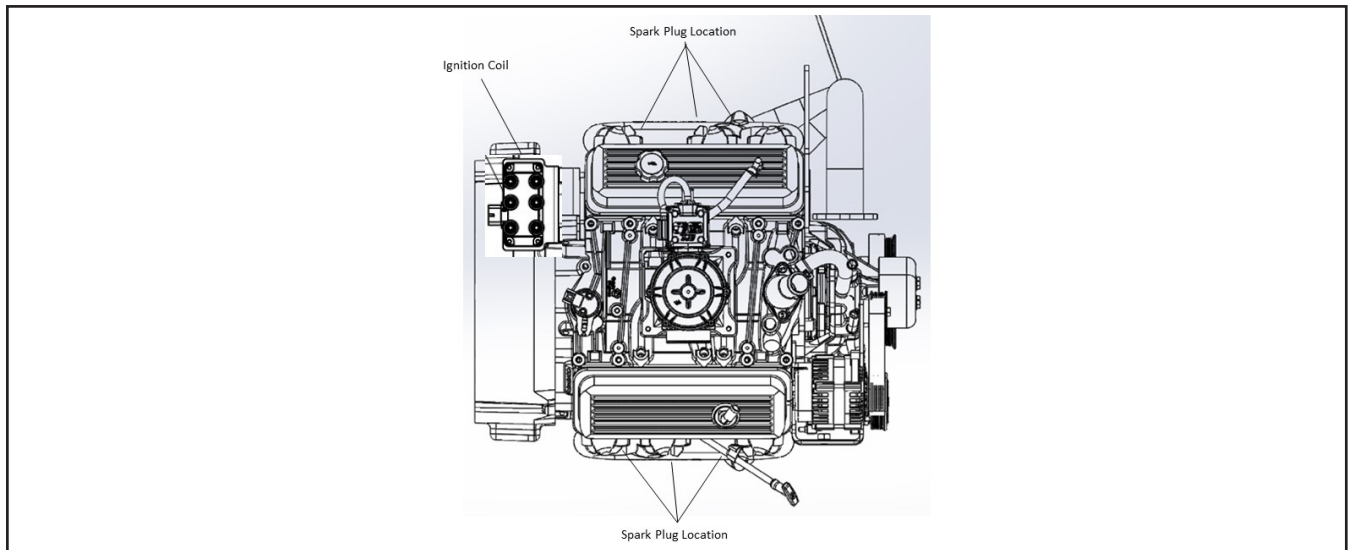

Figure 26 Spark Plug Wires
2. Use a cloth to wipe dirt and oil away from the area around each of the four spark plug wires. See Figure 26.